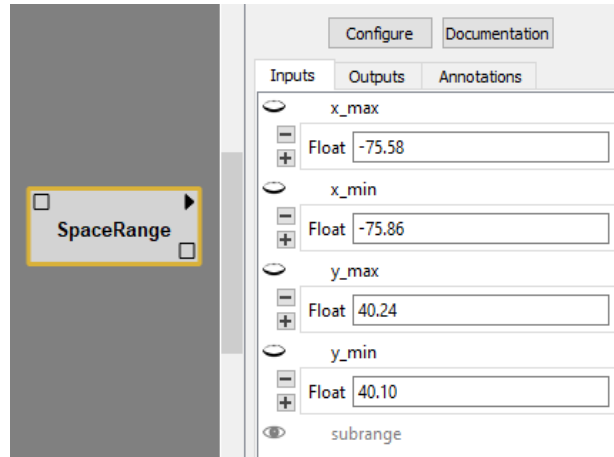
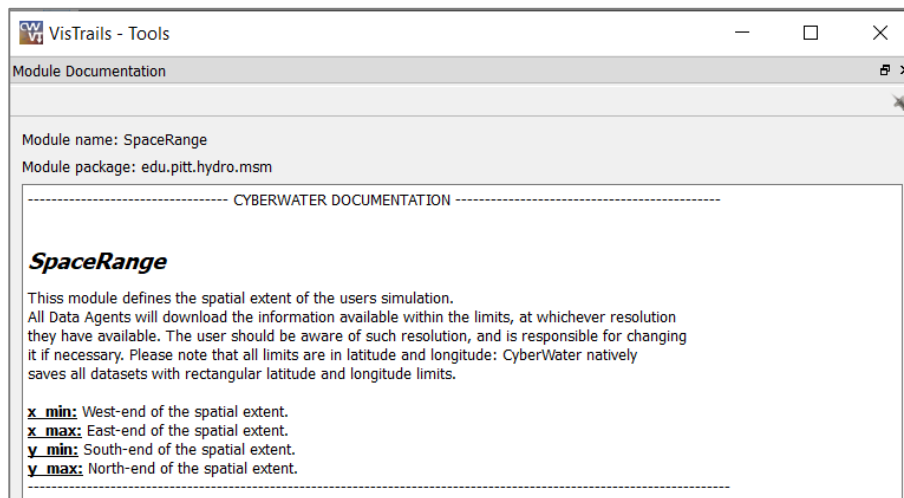
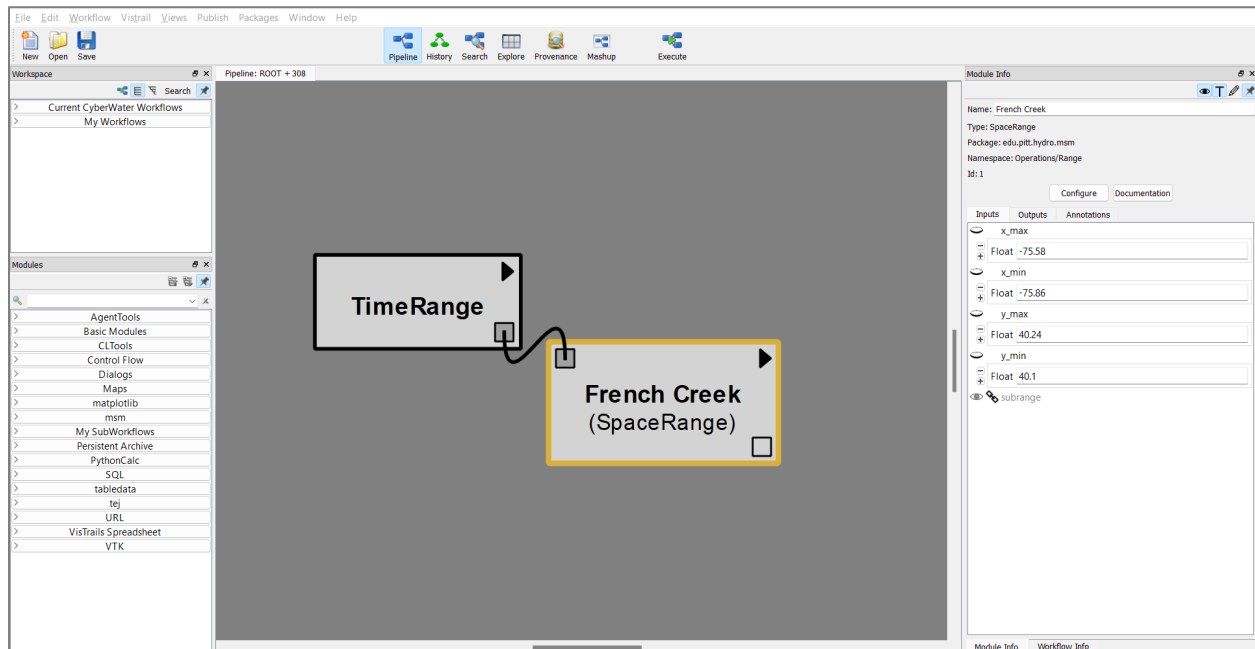

Figure 20. *SpaceRange* module of *CyberWater*, defining a spatial extent for a simulation.
Figure 21. Documentation of the *SpaceRange* module in *CyberWater*.
Figure 25. Case study definition with Temporal and Spatial specification in CyberWater.
The *SpaceRange*1 module allows the user to define the spatial extent of a simulation (see Figure 20). The boundaries of such space can be specified as the right, left, top, and bottom coordinates (e.g., if the projection of the datasets is latitude-longitude, such coordinates would be: east, west, north, and south, respectively). The coordinates that are shown in Figure 20 covering the area of the French Creek basin in southeast Pennsylvania.2
All modules in *CyberWater* come with dedicated documentation that explains their purpose and uses in detail. Also, such documentation includes the requirements on each of the inputs, as well as the properties of the outputs. For Data Agents, the documentation further includes information about spatio-temporal coverage and resolutions. This documentation can be accessed by selecting the Documentation button shown in Figure 20 (see top row in the right configure panel), which is displayed in Figure 21.
- Add a *SpaceRange*3 box with the same limits shown in Figure 20: -75.58,-75.86,40.24, 40.10 (x\_max, x\_min, y\_max, y\_min respectively). Connect the 'timerange' output of the *TimeRange* box with the 'subrange' input of the *SpaceRange* box. Note that the *Module Info* panel (to the right) allows the user to assign an alias to the box. For clarity, this module will be named 'French Creek', as shown in Figure 25.